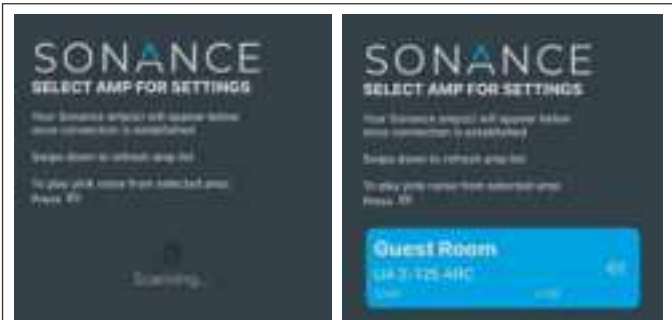

Figure 1: Connecting the Amplifier
- 4. When multiple amplifiers are displayed on the page, pressing the sound icon in the blue amp tile will trigger the amplifier to send pink noise signal to the speakers to help identify (see Figure 1).